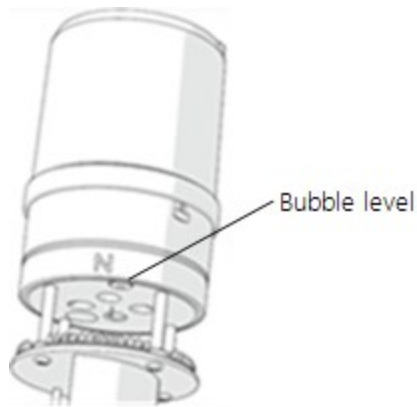

Figure 7-4. Bubble level on the ClimaVUE 50
4. Use a torpedo level or the bubble level underneath the sensor to level it (Figure 7-4 (p. 18)). The angle of the instrument mount may need to be adjusted if the mast is not vertical. Shims can be added between the top of the mast and the bottom of the ClimaVUE 50 to achieve level. The sensor must be within $\pm 2^\circ$ of dead level (0, 0) in both the X and Y directions to accurately measure rainfall and solar radiation. The $\pm 2^\circ$ can be confirmed by viewing the Tilt North(+)/South(-) and Tilt West(+)/East(-) orientation values returned by the **R7!** command.